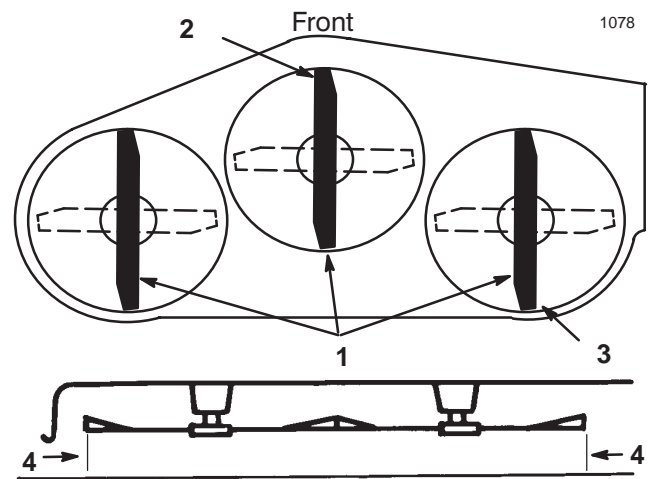

Figure 37
5. Set the height-of-cut at 3 in. (76 mm) and carefully rotate the blades so they are facing front to rear (Fig. 37).
6. Measure between the tip of the front blade (Fig. 37) and the tip of the rear blade to the flat surface. If the front blade tip is not 1/16–5/16 in. (1.6–7.9 mm) lower than the rear blade tip, adjust the front trunion rods.
9. After adjusting both trunion rod yokes evenly, secure the yokes with the hairpin coppers. Check the front-to-rear level again. Continue adjusting the yokes until the front blade tip is 1/16–5/16 in. (1.6–7.9 mm) lower than the rear blade tip (Fig. 37).